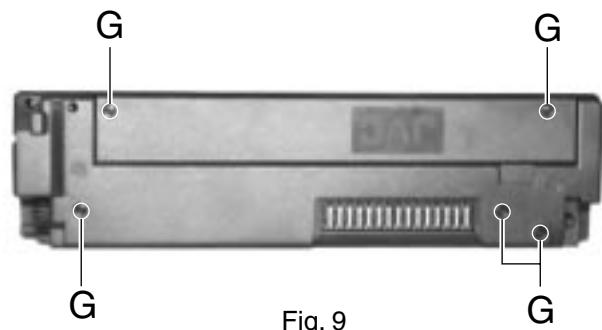

Fig. 9
■ Removing the (LCD & key) control switch board (See Fig.9 and 10)